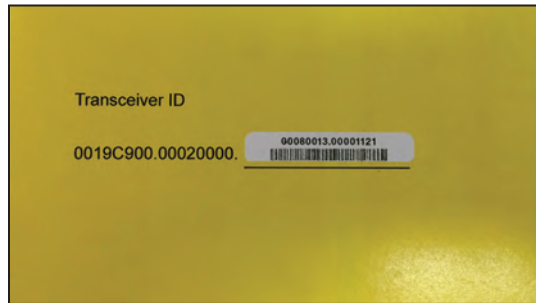

Figure 18. The Transceiver ID label.
- **Method 3:** The Transceiver ID is also printed on the back of the yellow “DO NOT DROP—HANDLE WITH CARE” tag attached to each TripSaver II recloser when it leaves S&C Electric Company. See Figure 18.